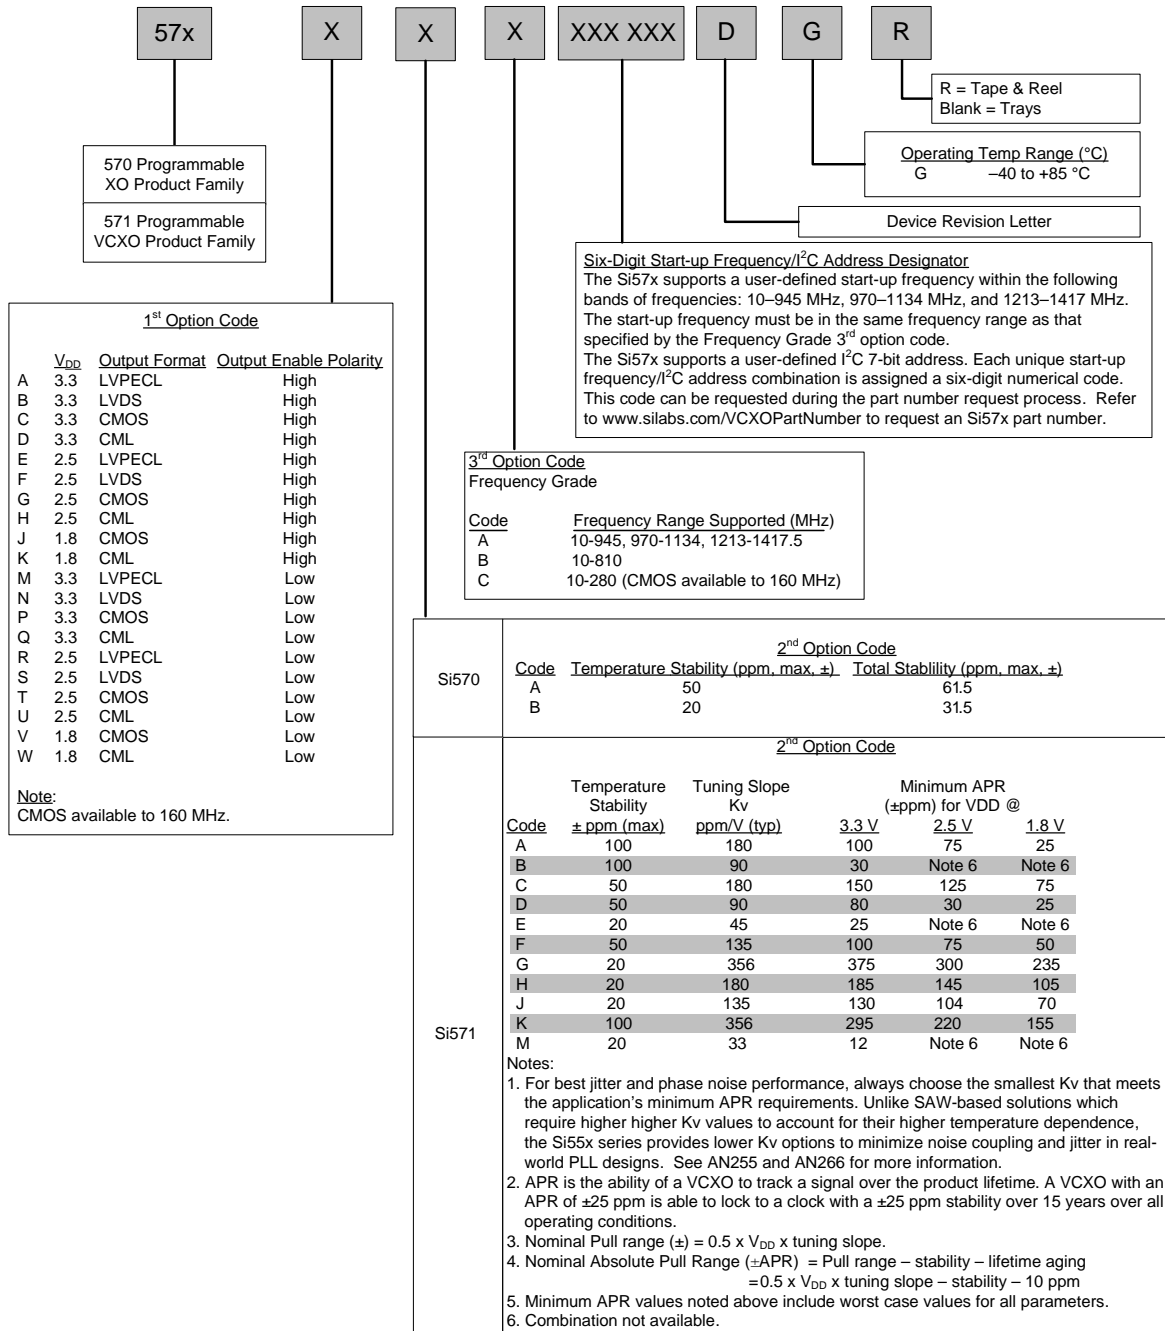

Figure 6. Part Number Convention
- Updated Figure 6, "Part Number Convention," on page 24.